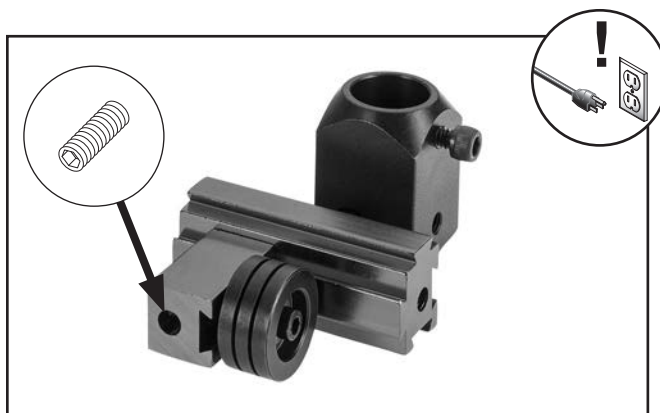

Figure 11. Guide block adjustment set screw location.
4. Loosen set screw on guide block shown in **Figure 11**.